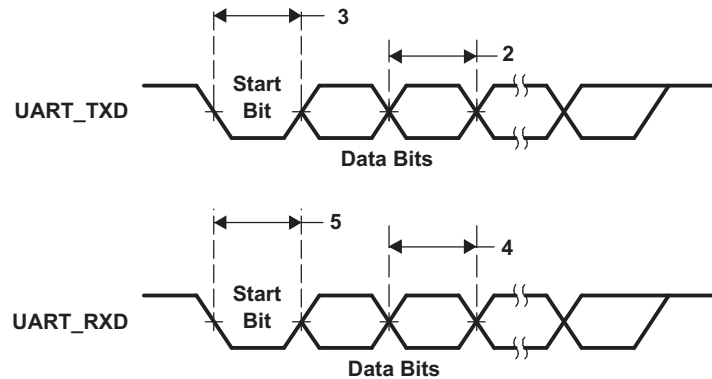

Figure 5-28. UART Transmit/Receive Timing
Table 5-31. Timing Requirements for UART Receive⁽¹⁾⁽²⁾ (see Figure 5-28)
(1) U = UART baud time = 1/programmed baud rate.
(2) These parametric values are measured at DV_{DDIO} = 3.3 V, 2.75 V, and 2.5 V
Table 5-32. Switching Characteristics Over Recommended Operating Conditions for UART Transmit^{(1) (2)} (see Figure 5-28)